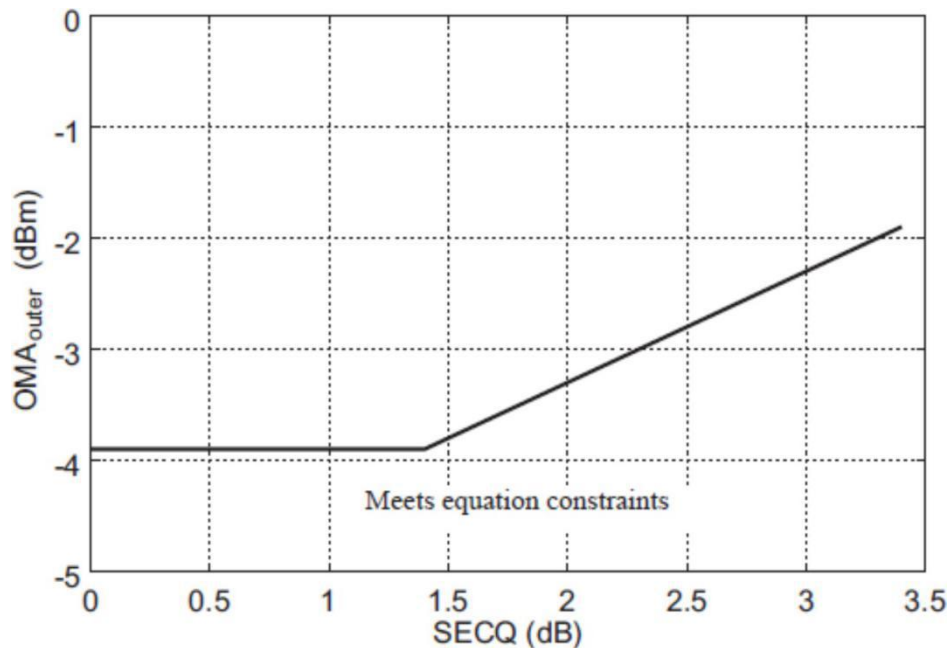

Figure 4. Illustration of Receiver Sensitivity Mask for 400G-DR4
- Receiver sensitivity (OMA_{outer}), each lane (max) is informative and is defined for a transmitter with a value of SECQ up to 3.4 dB. It should meet Equation (1), which is illustrated in Figure 4.